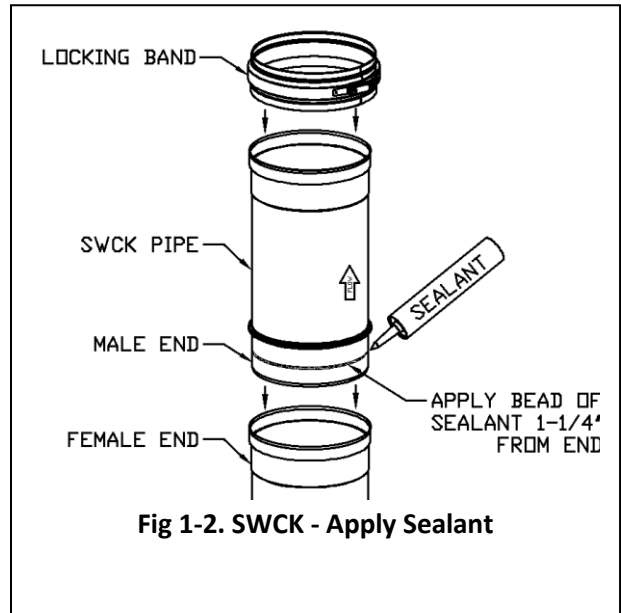

Fig 1-2. SWCK - Apply Sealant
Single-Wall Model SWCK joint system is designed for a quick and easy installation. See Figs 1-2 to 1-5. To Assemble:
3. Apply J- Sealant continuously (1/4" bead minimum) to the male end of the inner flue pipe. Sealant is to be approximately 1-1/4" from the end of pipe. (See Fig 1-2)
5. Position the Locking Band (LB) around the joint and ensure grooves in LB are seated in the Pipe grooves.